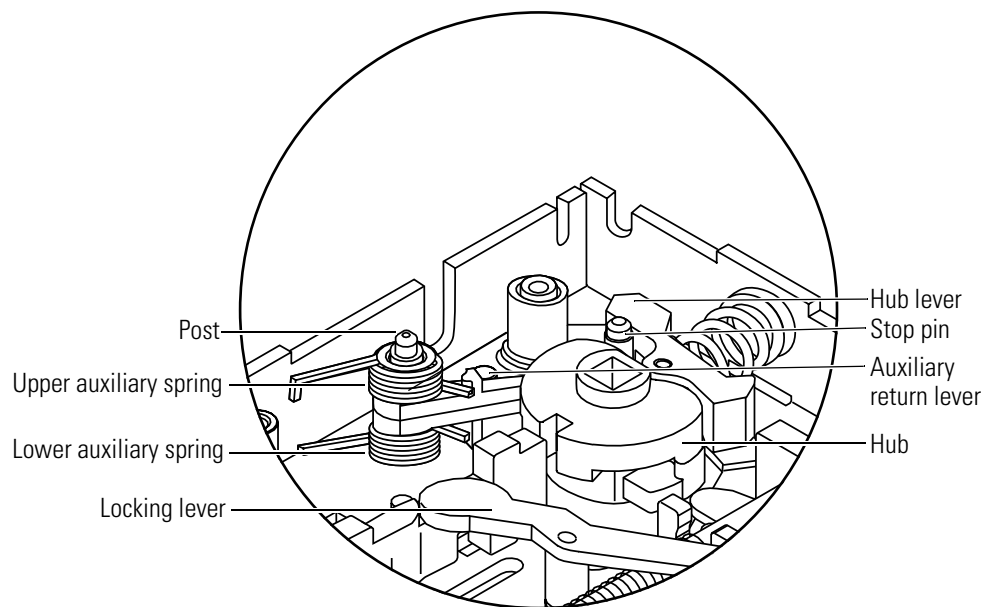

Figure 4.19 Performing knob to lever conversion
10. Install the lower auxiliary spring onto the post located at the bottom center of the case, as shown in Figure 4.19.
12. Position the upper auxiliary spring onto the post, as shown in Figure 4.19.